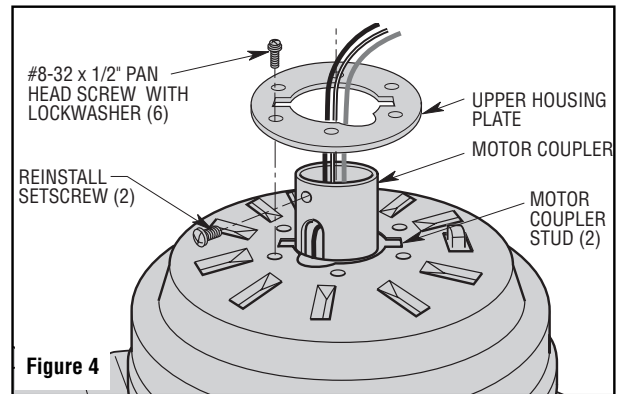

Figure 4
8. Place the upper housing plate so that the two notched areas align with the two studs on the motor coupler. Aligning the six screw holes of the upper housing plate onto the motor hub. Firmly attach the upper housing to the motor hub/upper housing plate by using the six #8-32 x 1/2" pan head screws with lockwashers (supplied) (Figure 4).